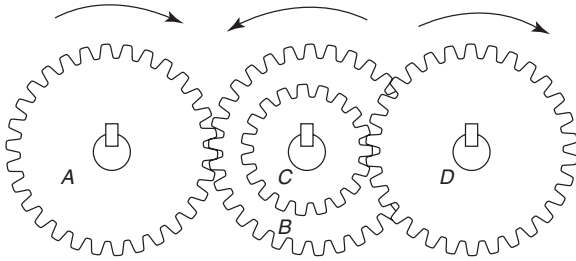

Figure 18.6
A **compound gear train** is shown in Figure 18.6, in which gear wheels *B* and *C* are fixed to the same shaft and hence $N_B = N_C$.
Problem 8. A compound gear train similar to that shown in Figure 18.6 consists of a driver gear *A*, having 40 teeth, engaging with gear *B*, having 160 teeth. Attached to the same shaft as *B*, gear *C* has 48 teeth and meshes with gear *D* on the output shaft, having 96 teeth. Determine (a) the movement ratio of this gear system and (b) the efficiency when the force ratio is 6.
3. A compound gear train is as shown in Figure 18.6. The movement ratio is 6 and the numbers of teeth on gears *A*, *C* and *D* are 25, 100 and 60, respectively. Determine the number of teeth on gear *B* and the force ratio when the efficiency is 60%.